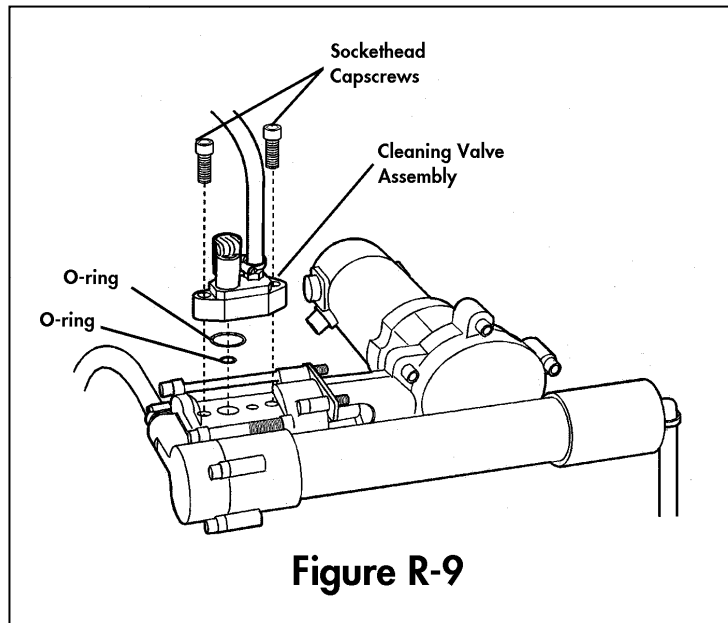

Figure R-9
13. To replace the O-rings beneath the cleaning valve assembly, refer to **Figure R-9**. Unscrew the